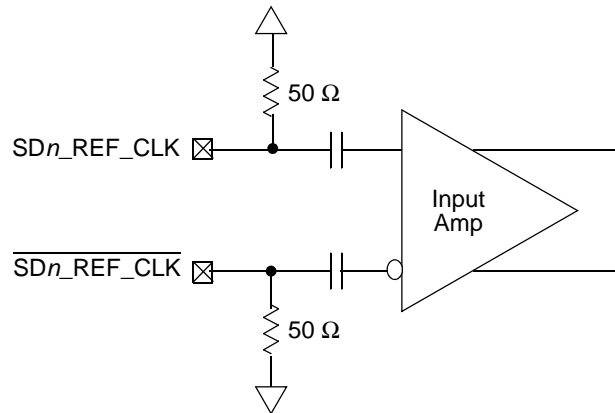

Figure 44. Receiver of SerDes Reference Clocks
Figure 44 shows a receiver reference diagram of the SerDes reference clocks. Characteristics are as follows:
- The SDn_REF_CLK and $\overline{SDn_REF_CLK}$ are internally AC-coupled differential inputs as shown in Figure 44. Each differential clock input (SDn_REF_CLK or $\overline{SDn_REF_CLK}$) has on-chip 50- Ω termination to $SGND_SRDSn$ ($xcorevss$) followed by on-chip AC-coupling.